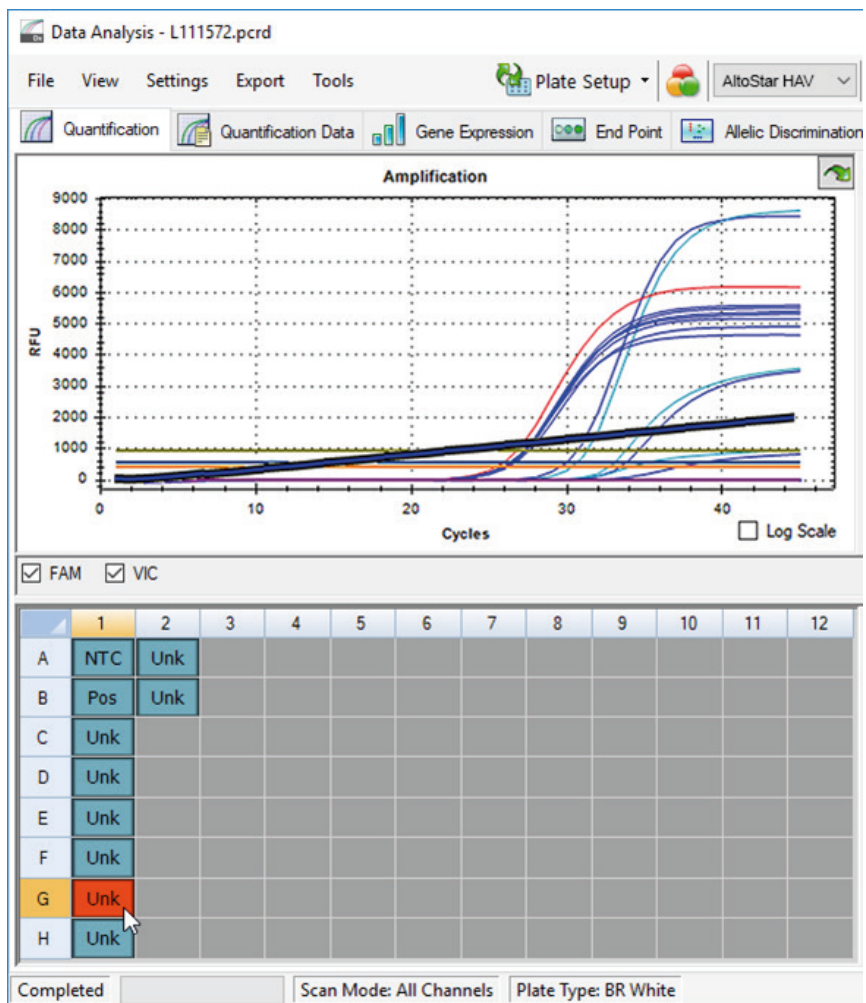

Figure 6: Data Analysis window: irregular PCR signal
- Identify wells with irregular PCR signals (linear signal increase, signal spikes, etc.) in any of the FAM™ (HAV target) and the VIC™ (IC) detection channels (see figure 6).